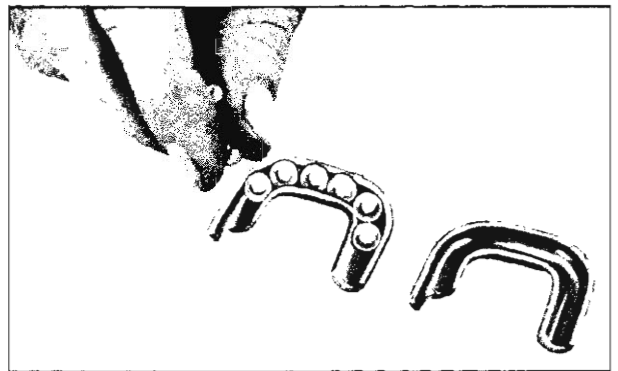

Fig. 51—Filling Ball Guides
- Lay one-half of the ball guide, groove up, on the bench and place the remaining balls from the count container in it (fig. 51).